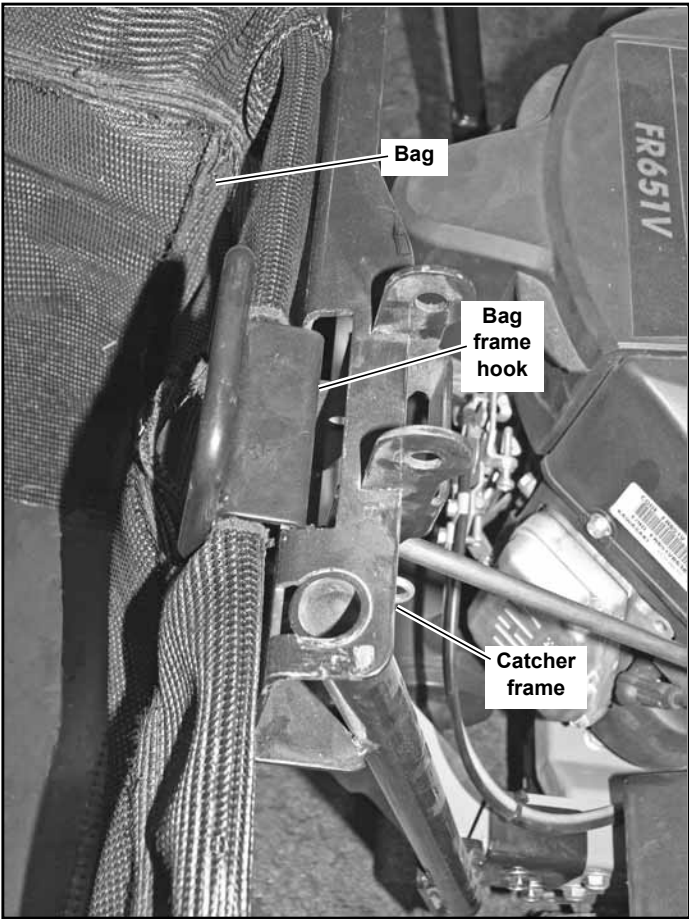

Figure 3-20
21. Place the bags on the catcher frame by inserting the bag frame hook into the catcher frame slot. Figure 3-20